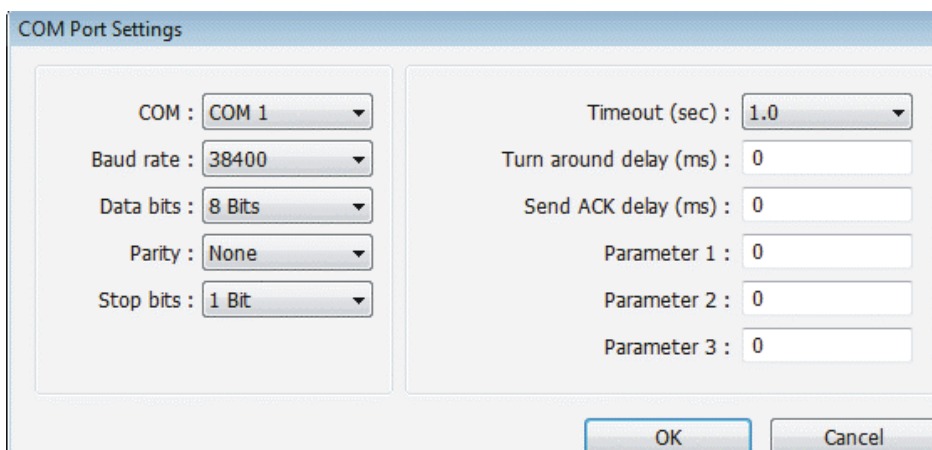

Figure 2: HMI Baud Rate Configuration in EB8000
5. Click on the “Settings” button beside the COM field to select the HMI COM port being used and to configure the baud settings. A new window will open where you need to select the COM port and set the baud rate, data bits, parity, and stop bits so that they match what is set in the PLC. The default baud settings for the PLC are 38400, 8 data bits, no parity, and 1 stop bit. Refer to Figure 2 below. For the MMI6050, choose COM1 since that is the only option.